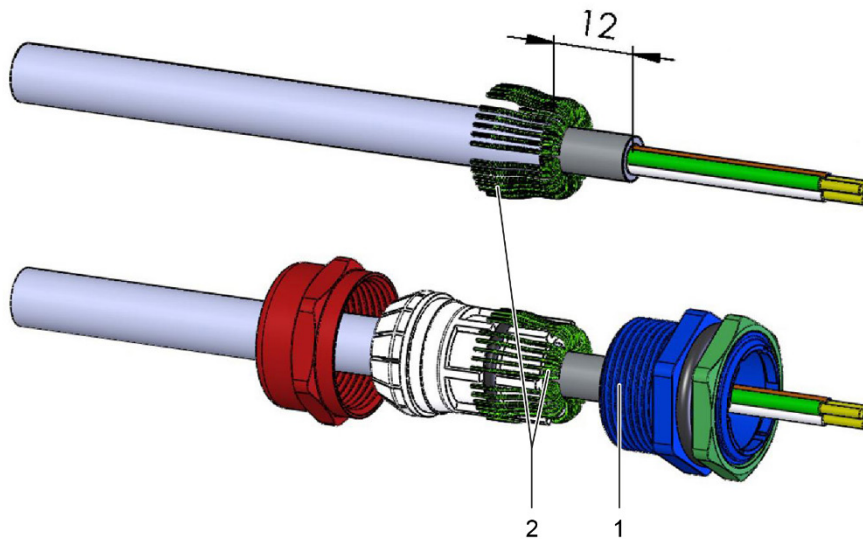

Fig. 11: Connecting the cable shields in the cable glands
**On the device side, the shields of all the connected cables must be connected to the metal body of the cable gland according to fig. 11.**